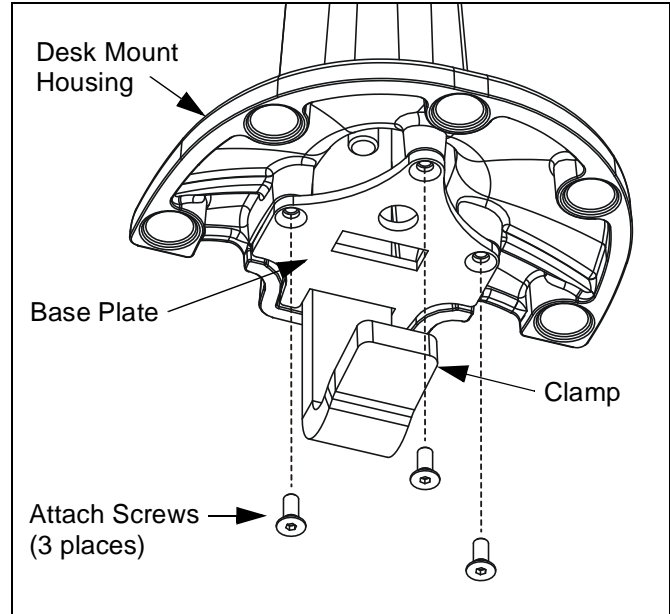

Figure 3: Desk Mount Base Plate
5. Using 2.5mm hex key, remove and retain desk mount base plate and attach screws (See Figure 3).
- Install retained desk mount base plate and attach screws. Ensure clamp faces center of desk mount as shown (See Figure 3).